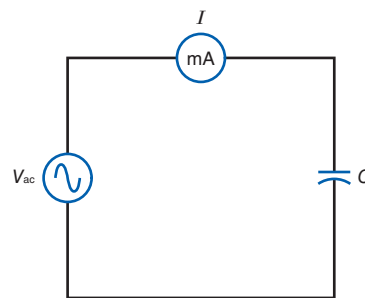

Figure 16-11
- 16.4 In Fig. 16-11, calculate the capacitive reactance, X_C , for the following values of V_{ac} and I ?
- 16.5 In Fig. 16-11, list three factors that can affect the amount of charge and discharge current flowing in the circuit.